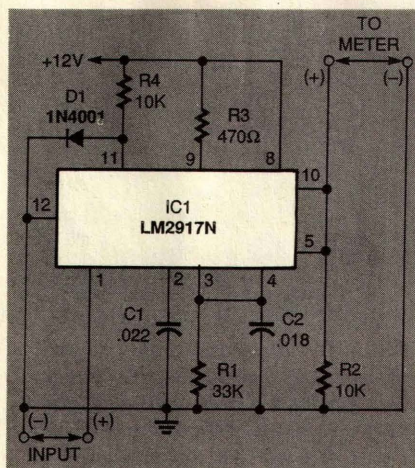

Fig. 11 Adding an LM2917 to the 7107's inputs lets you measure lower frequencies up to about 10 kHz.
**Frequency Measurements.** Figure 11 uses the LM2917N frequency-to-voltage converter in a standard configuration. That device is a simple and